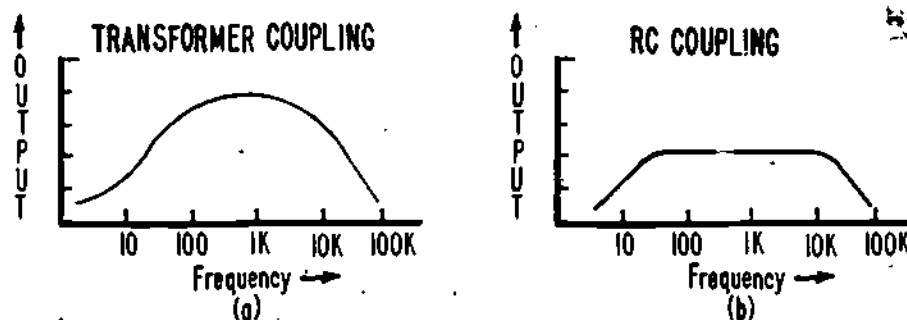

FIGURE 2
Amplifiers you have studied will not reproduce the low and high frequencies required of video amplifiers. Figure 2 shows the typical response curves for actual transformer coupled and resistance-capacitance (RC) coupled amplifiers.